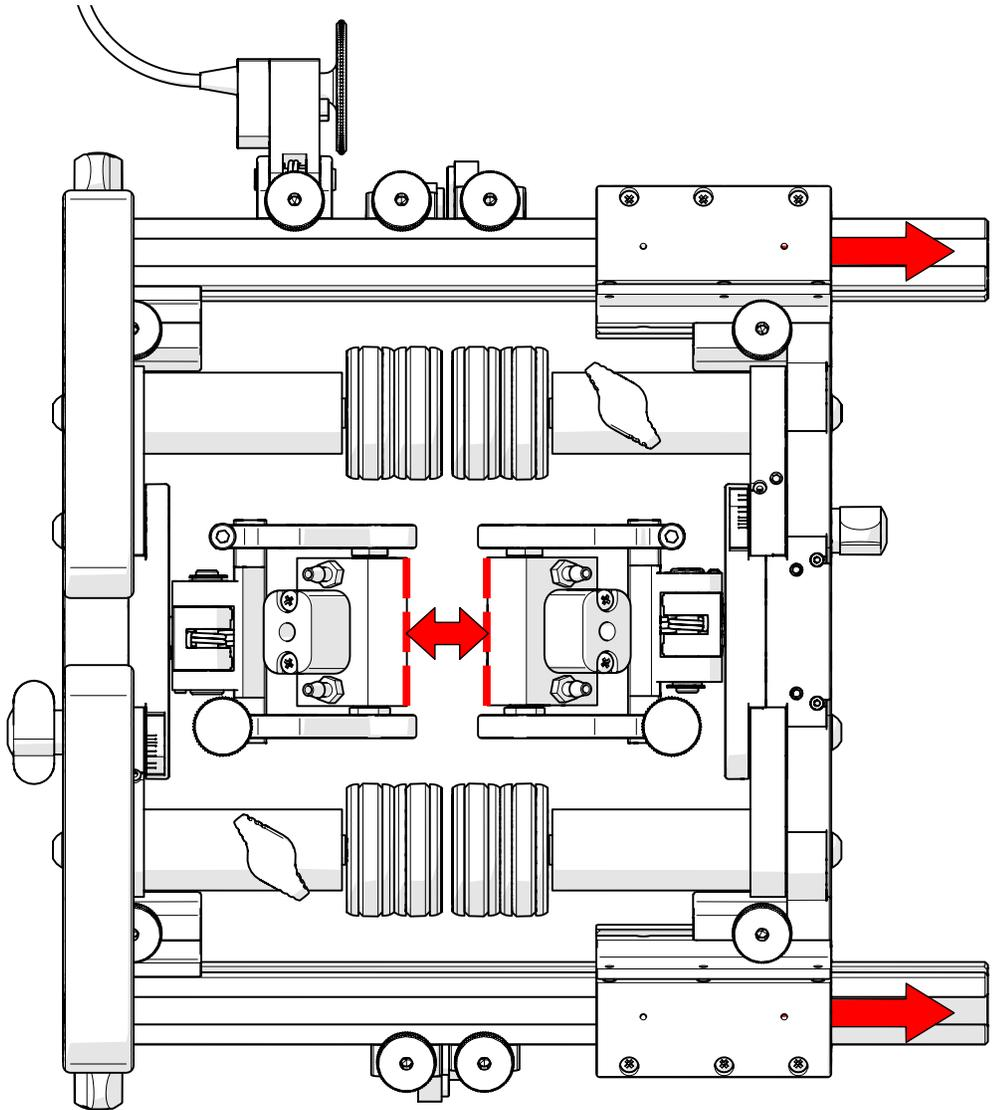

Fig. 18 - Slide the articulated side frame along the frame bar to adjust probe spacing
2. Slide one-half of the articulated side frame along the frame bars to achieve the probe spacing required (Fig. 18).